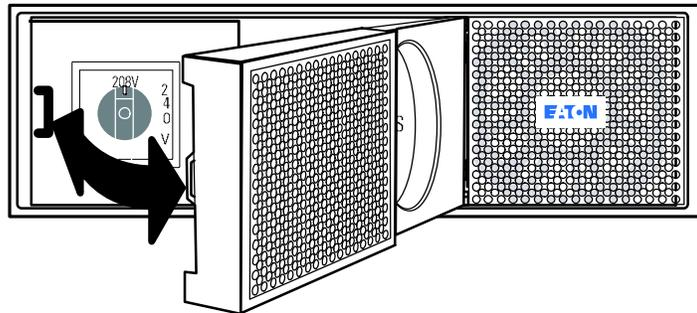

Figure 18. Open the Front Cover
3. Open the front cover from the left side (see Figure 18).